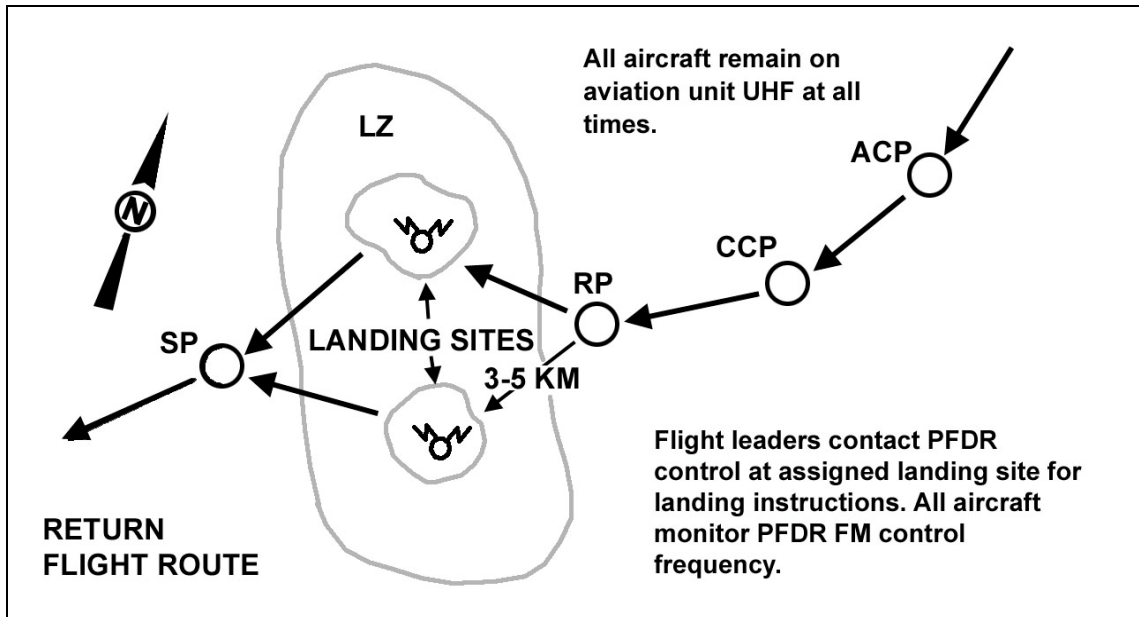

Figure 2-1. En route communication procedures with pathfinders in an LZ.
a. Pathfinders must thoroughly understand radio procedures. This includes the phraseology unique to ATC (Chapter 3). They must send clear, concise, applicable, accurate, and correctly timed communications. To achieve speed and clarity of transmission, pathfinders and aviators practice radio discipline. They transmit only necessary messages. Also, except in emergencies, they use pathfinder ATC frequencies only for ATC (Figure 2-1).